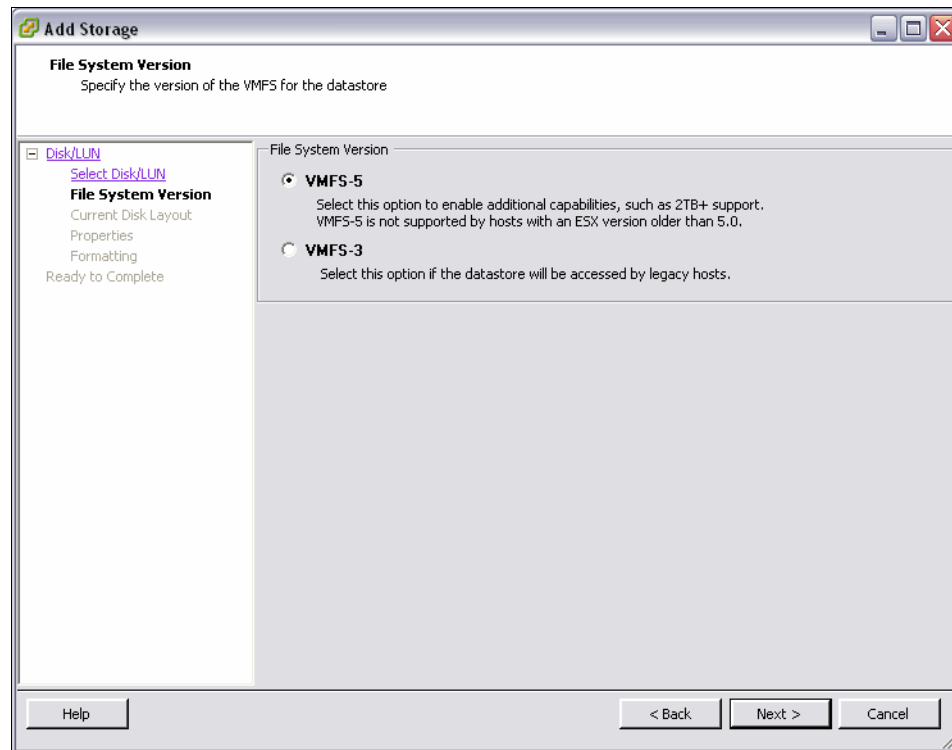

Figure 5-69 Select File System Version
10. Select a File System Version option. In our example, we selected **VMFS-5**, as shown in Figure 5-69.